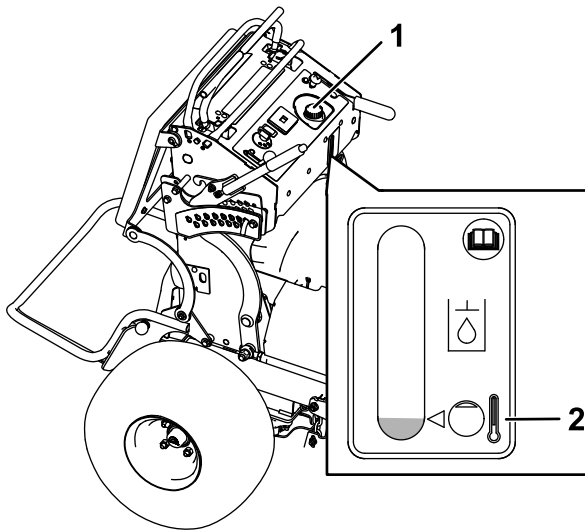

Figure 69
- Clean the area around the cap and the filler neck of the hydraulic tank (Figure 69).
5. Remove the cap from the filler neck (Figure 69).